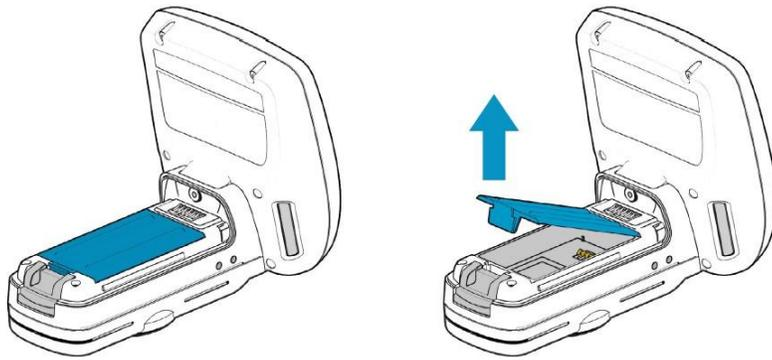

Figure 6 Remove Battery Cover
2. Remove the Battery Cover (Figure 6).